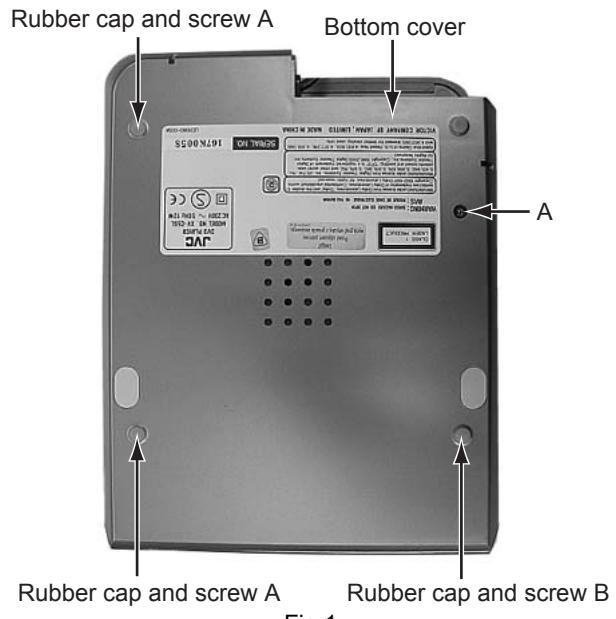
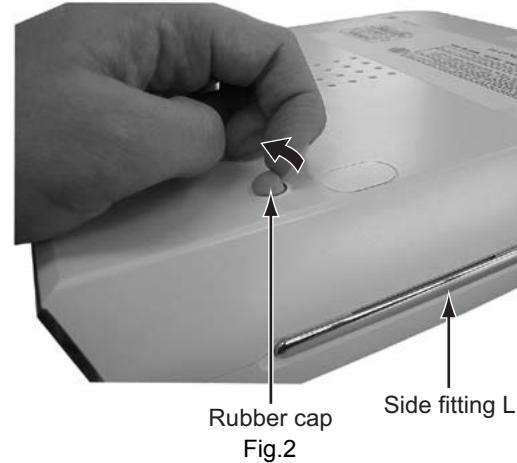

Fig.1
Fig.2
2.1.1 Removing the bottom cover (See Figure 1, Figure 2)
- (1) Remove the three rubber caps on the bottom of the main body.
*Remove the rubber caps by peeling them with your nails because they are only inserted in the holes. (See Figure 2)
- (2) Remove the three screws **A** (long) and one screw **B** (short) attaching the bottom cover on the bottom of the main body.
- (3) Lift the bottom cover, and remove it.